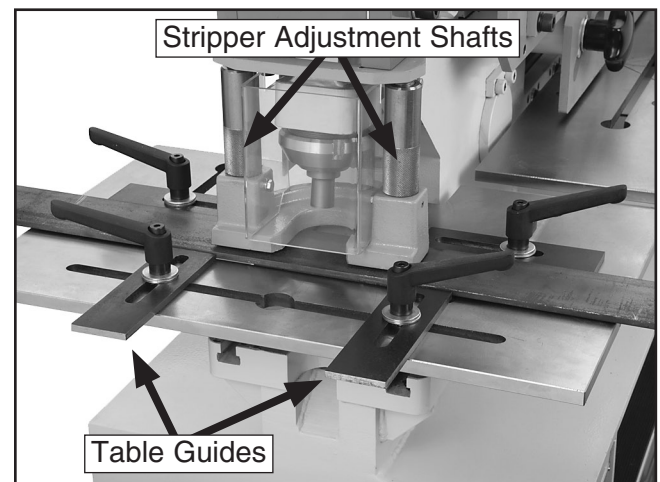

Figure 17. Typical punch station setup with a workpiece mounted on the table.
2. Rotate both knurled stripper adjustment shafts together (see **Figure 17**) to raise the hold-down slightly higher than the thickness of the workpiece.